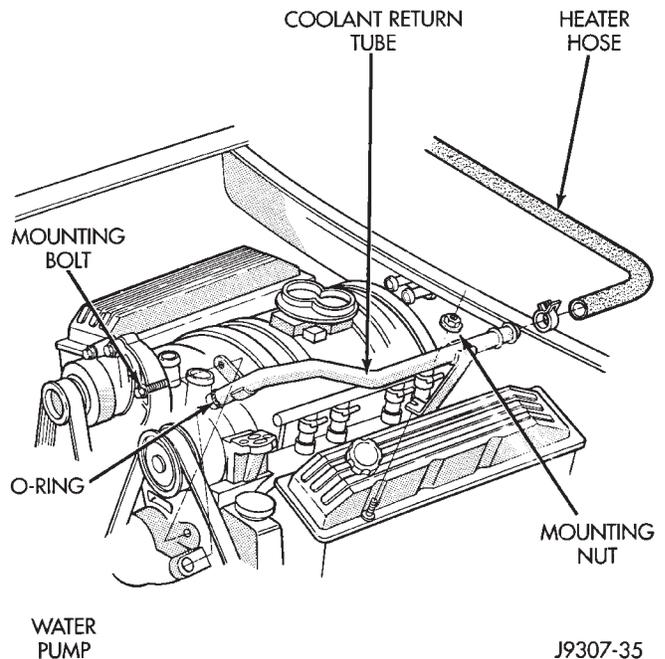

Fig. 56 Coolant Return Tube—5.2/5.9L Engines
- (7) Remove heater hose coolant return tube mounting bolt and nut (Fig. 56). Remove tube from engine and discard the old tube o-ring.
(5) Install a new o-ring to the heater hose coolant return tube (Fig. 56). Coat the new o-ring with anti-freeze before installation.
(6) Install coolant return tube to engine (Fig. 56). Be sure the slot in tube bracket is bottomed to the mounting bolt. This will properly position return tube.